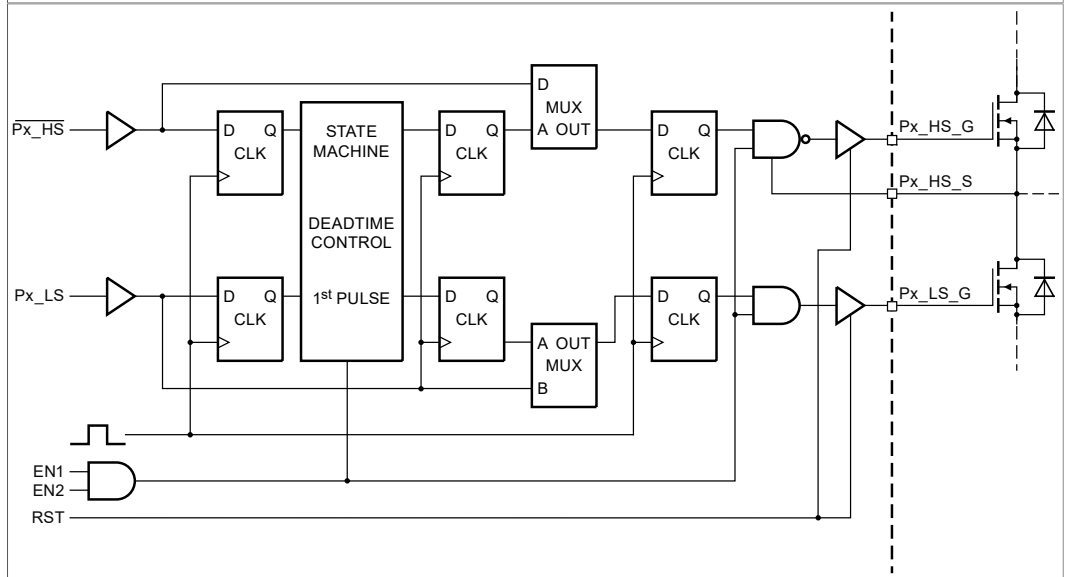
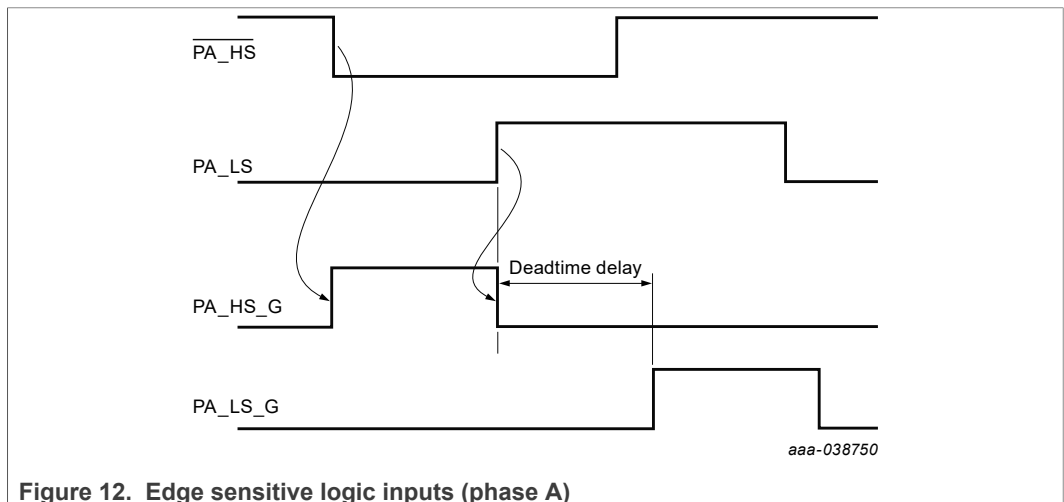

Figure 5. Deadtime control delays
Figure 12. Edge sensitive logic inputs (phase A)
- [6] These delays include all logic delays except deadtime. All internal logic is synchronous with the internal clock. The total delay includes one clock period for state machine decision block, an additional clock period for FULLON mux logic, input synchronization time and output driver propagation delay. Subtract one clock period for operation in FULLON mode which bypasses the state machine decision block. Synchronization time accounts for up to one clock period of variation. See Figure 5.
The $\overline{P_x_HS}$ and P_x_LS logic inputs are edge sensitive. This means the leading edge on an input causes the complementary output to immediately turn off and the selected one to turn on after the deadtime delay as illustrated in Figure 12. The deadtime delay timer always starts at the time a FET is commanded off and prevents the complementary FET from being commanded on until after the deadtime has elapsed. Commands to turn on the complementary FET after the deadtime has elapsed are executed immediately without any further delay. See Figure 5 and Figure 12.